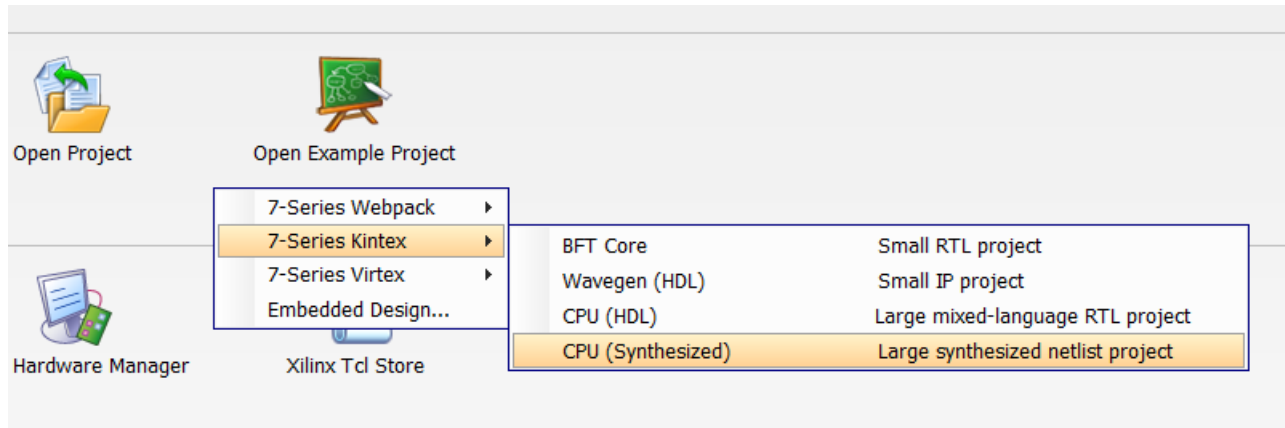

Figure 1: Open Example Project
- From the Getting Started page, click **Open Example Project** and select the **7-Series Kintex > CPU (Synthesized)** design, as shown in Figure 1.